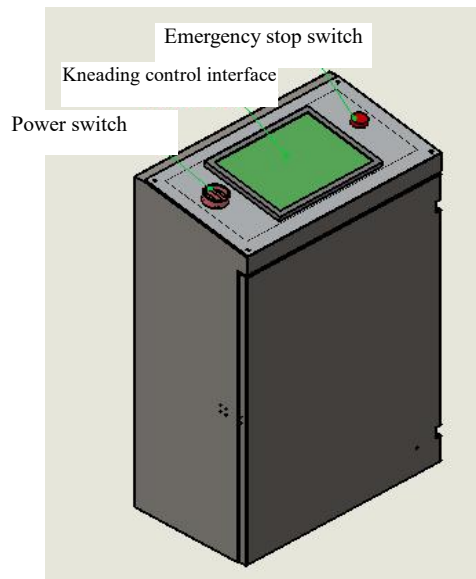

Figure 9
- 2) Turn on NFB and power switch in turn, and confirm the emergency stop button is in non-pressed status. As shown in Figure 9: